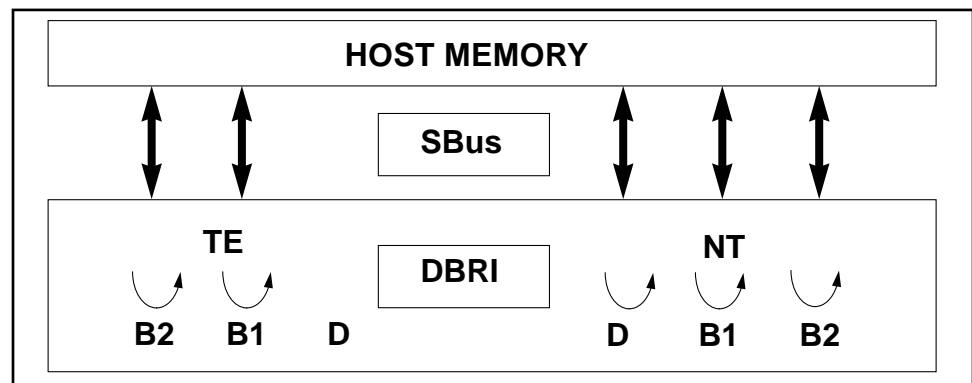

Figure 2-4 `isdntest` Local Loopback Subtest
The first subtest is the local loopback test. It first checks the initial activation state of the Network Termination (NT) and Terminal Equipment (TE) interfaces to make sure they are deactivated. It then activates each interface using the “force activation” capability of DBRI. Each interface is then put into local loopback mode (See Figure 2-4). Data residing in host memory is written to each interface, which loops the data back onto itself. The data is then read back into host memory and verified. Each channel, D, B1 and B2 is tested, with the exception of the TE D channel, which cannot be tested in local loopback mode. This test runs internal to the DBRI chip. This subtest does *not* require an NT to TE external loopback connector.